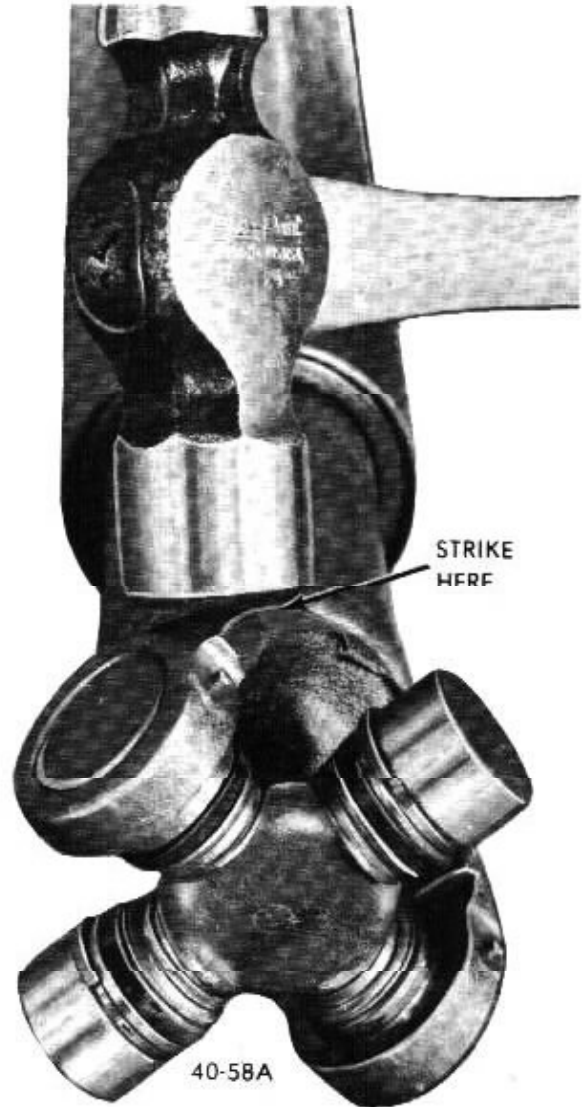

Figure 40-71 Seating U joint Snap Rings
4. Strike the yoke firmly with a hammer to fully seat the snap rings against the yoke. Turn the spider to make certain that it is free. See Figure 40-71.